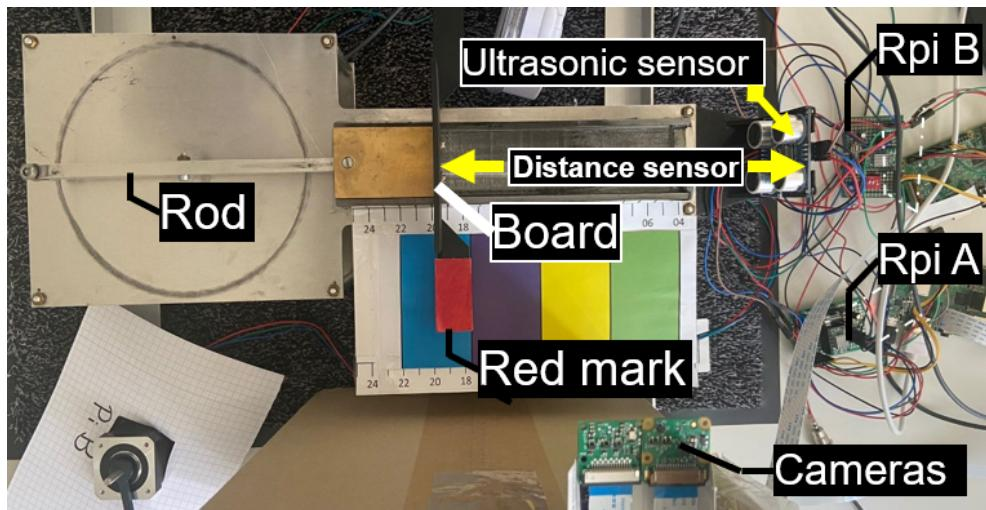

Figure 6.1: Ultrasonic sensor role in the experiment. The ultra sensor, the board, and the distance to be measured are depicted
1. Measure the distance between the sensor and the board attached to the rod as shown in Figure 6.1 (**4 points**).